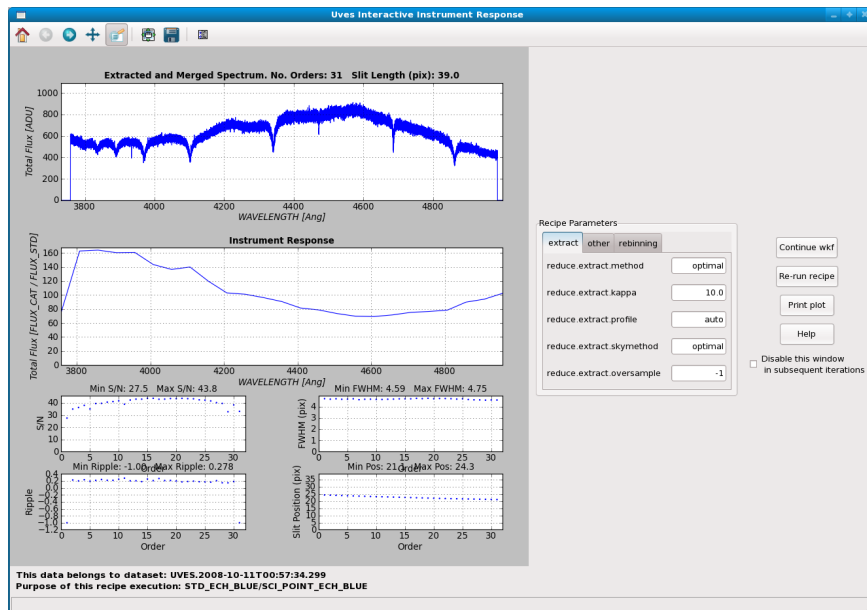

Figure 7.4: The interactive window for the Instrument Response actor.
- Instrument Response:** The standard DataSets supplied with Reflex 2.8 do not include standard star observations. Hence the Instrument Response actor will not be executed, and the corresponding interactive window will not appear. In Figure 7.4 we show what this interactive window looks like. The usage and purpose of the Instrument Response interactive window are the same as for the Spectrum Extraction interactive window which we describe in detail in the next few steps, and so no more information on this window is given here in the tutorial.